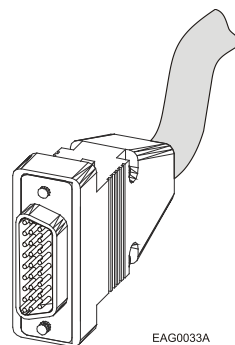

Figure 11: Feedback and Control Cable Assemblies
3. Ideally, solder the drain wire to the connector body as shown in Figure 11. However, the shield may also be attached without soldering, as long as the braid shield is in tight contact with the metal housing of the D-type connector.